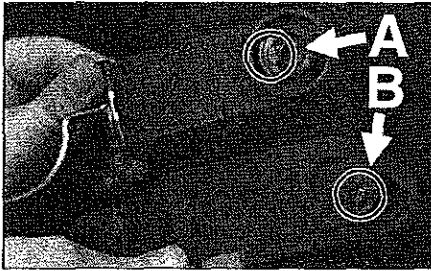

Figure 49
2. Visually inspect the molded, plastic step on the ends of the handle (see item B in Figure 49), if the step is cracked or broken, the handle must be replaced.